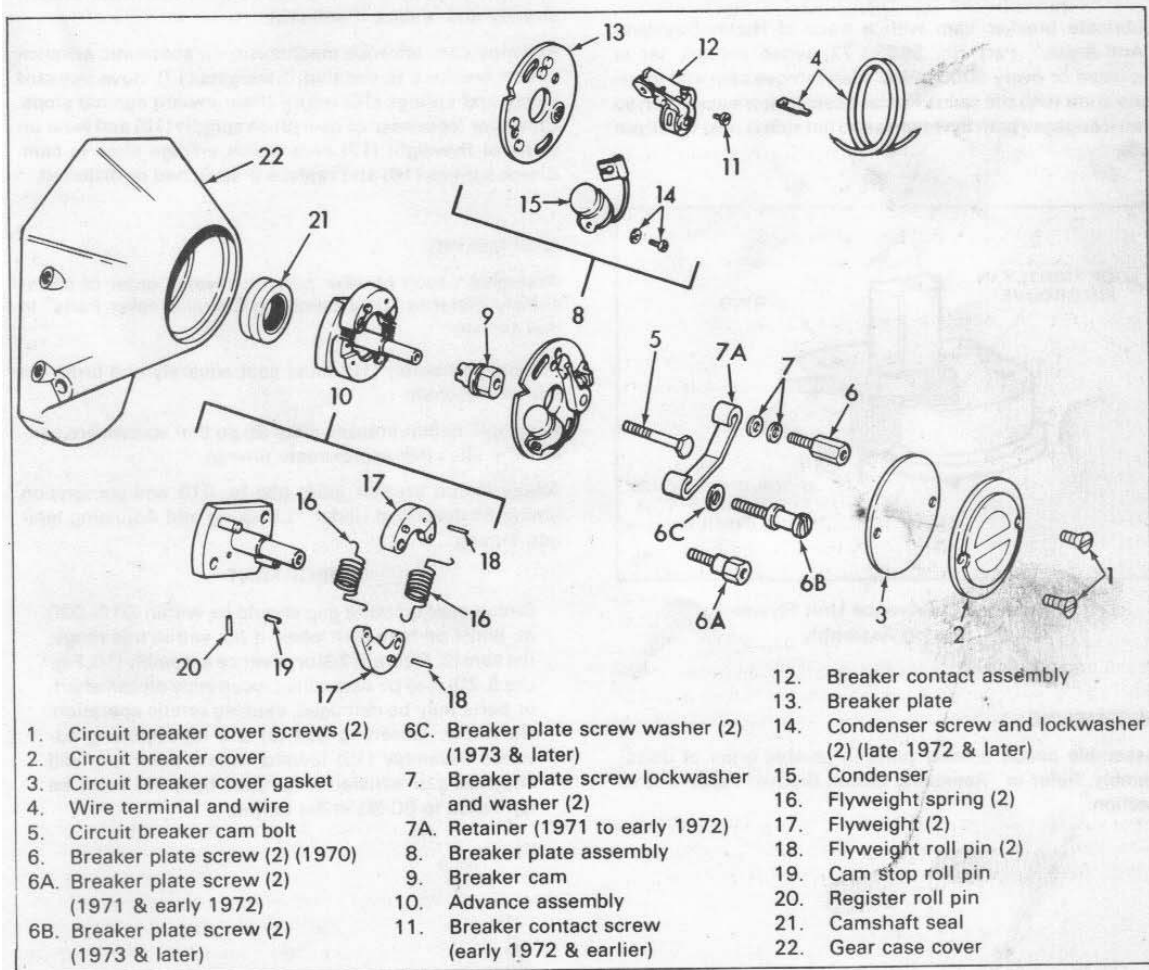

Figure 5-20. Circuit Breaker - Exploded View
(Figure 5-20)
Examine the coil to circuit breaker low tension wire (4, Figure 5-20) for brittle or cracked insulation and broken strands and replace if defective.
Circuit breaker point gap should be within .016-.020 in. limits on both cam lobes. If not within this range, the cam (9, Figure 5-20) or advance assembly (10, Figure 5-20) may be assembled incorrectly on camshaft, or parts may be damaged, causing erratic operation. Generally, loosening bolt (5) and repositioning advance assembly (10) toward widest point gap will equalize gap satisfactorily. Cam bolts (5) must be tightened to 60-80 in-lbs torque.